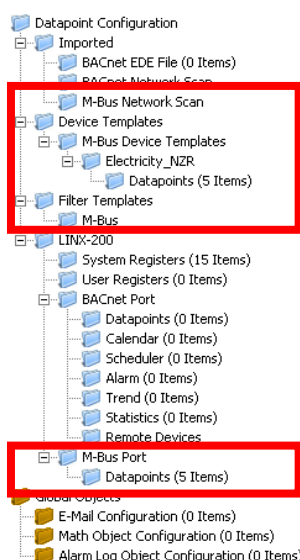

Figure 189: Data Point Manager Dialog with M-Bus folder list
- The folder list (Figure 189)